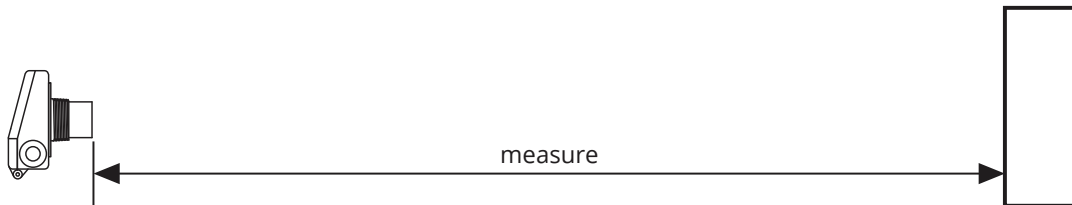

Figure 4.1
- Point the sensor at a solid object at a known distance near the maximum range of the sensor (See Figure 4.1).